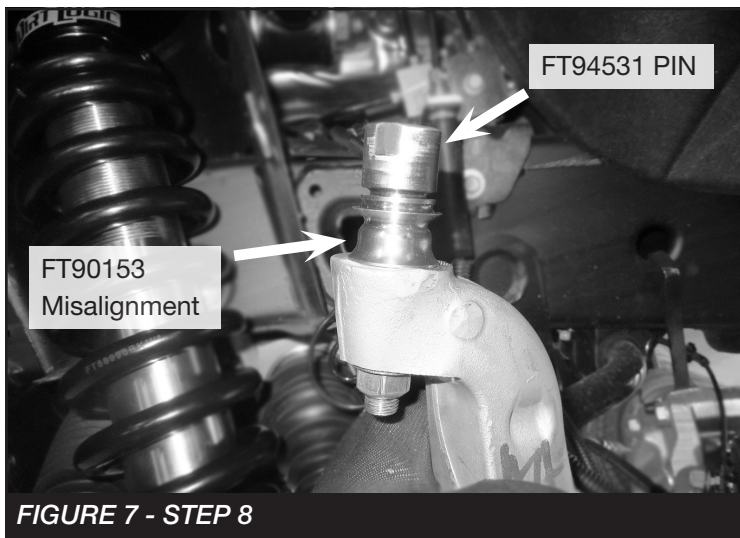

FIGURE 7 - STEP 8
8. Install FT90153 (Lower misalignment) onto FT94531 (Uniball Pin). Then, install into the factory control arm using the supplied 1/2" nut and washer. Torque the nut to 120 ft-lbs. using a 15/16" open end wrench on the pin end. **SEE FIGURE 7**